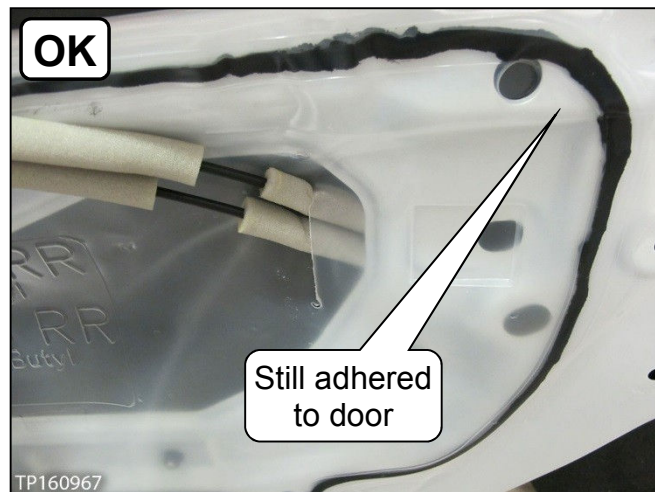

Figure 8
- a. If the vapor barrier's condition is similar to the one in Figure 8, go to page 6, **Vapor Barrier - Adjustment**.